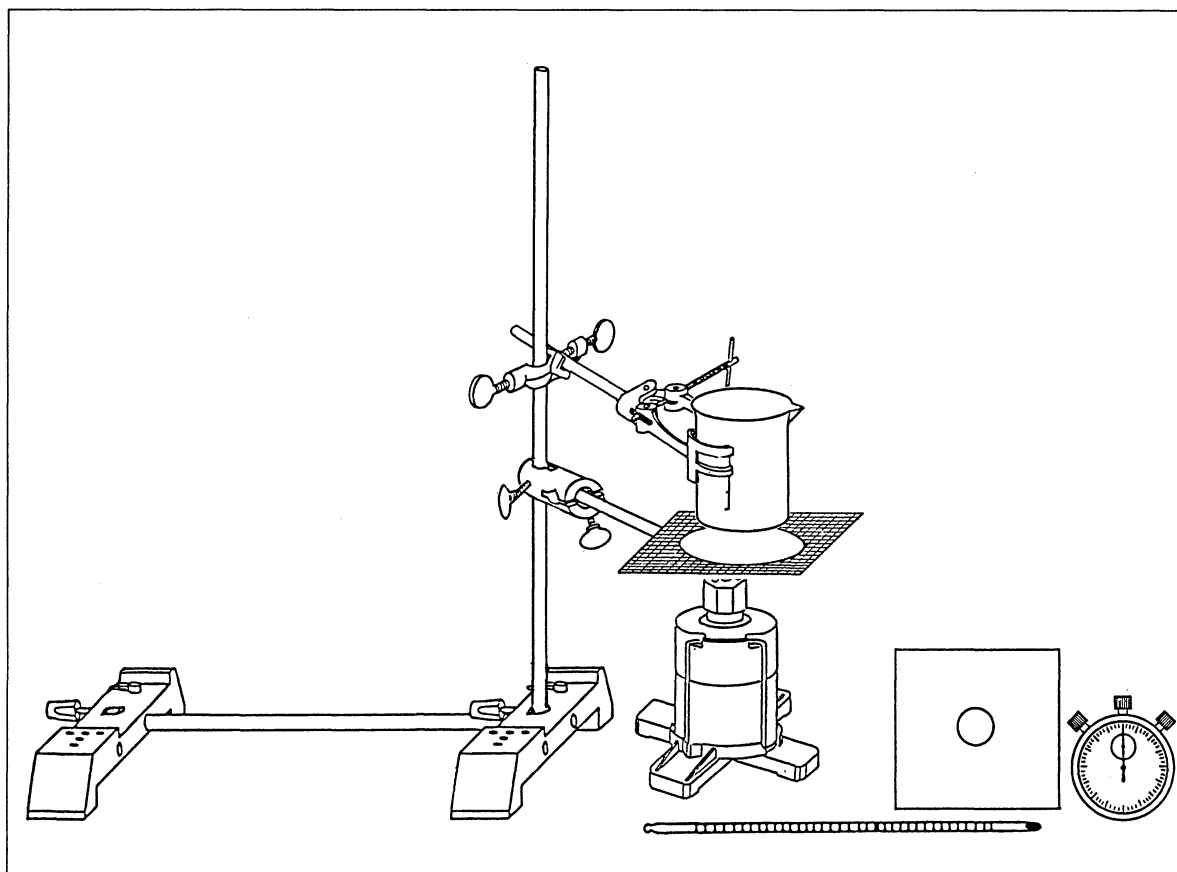

Fig. 1 Setup for investigating the properties of hot water when cooling
1. Assemble the stand as shown in fig. 1.